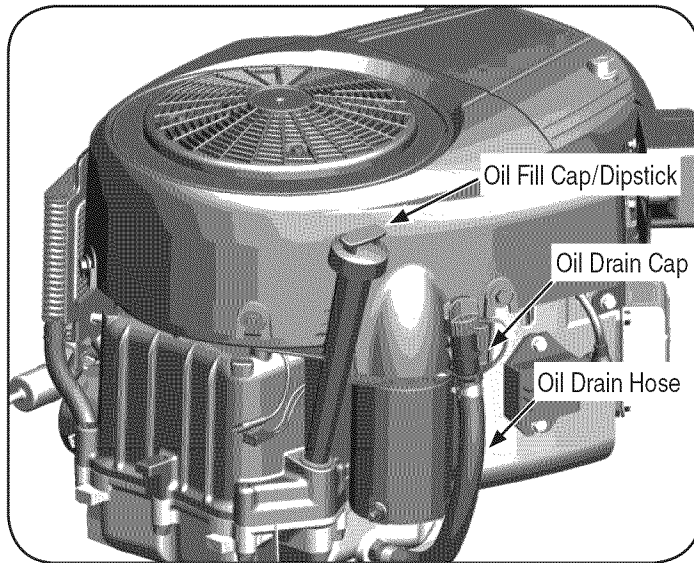

Figure 20
2. Remove the oil fill cap/dipstick from the oil fill tube. See Figure 20.